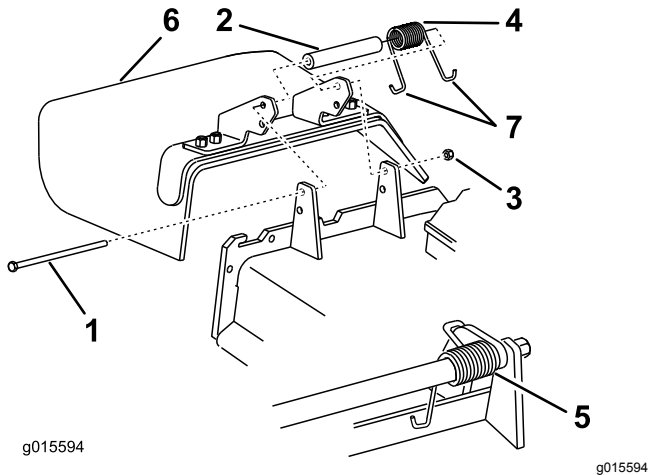

Figure 102
1. Remove the locknut, the bolt, the spring, and the spacer holding the deflector to the pivot brackets (Figure 102).
2. Remove the damaged or worn grass deflector (Figure 102).
Note: Make sure that the J-end of the spring is installed behind the deck edge before installing the bolt as shown in Figure 102.
6. Place the J-hook end of the spring around the grass deflector (Figure 102).